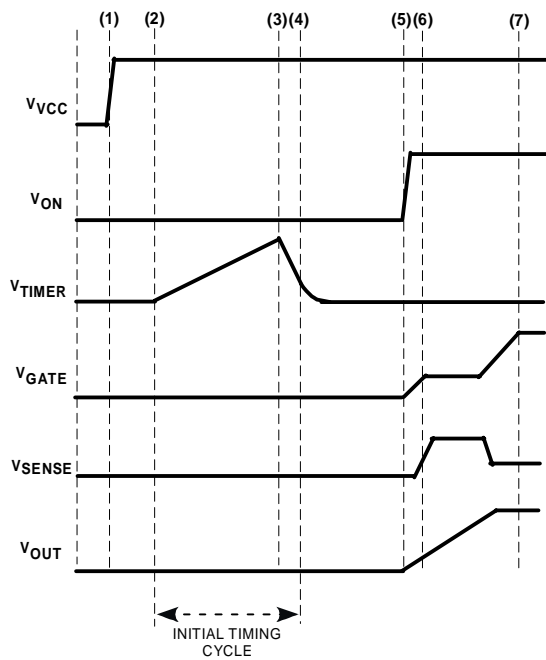

Figure 5. Start-up (ON asserts after power is applied)
gate is charged up with a 12 μA current source. At timepoint (5) the threshold voltage of the FET is reached and the load current begins to flow. The FET is controlled to keep the sense voltage at 100 mV (this corresponds to a maximum load current level defined by the value of R_{SENSE}). At timepoint (6) V_{GATE} and V_{OUT} have reached their full potential and the load current has settled to its nominal level. Figure 5 illustrates the situation where the ON pin is asserted after V_{VCC} is applied.